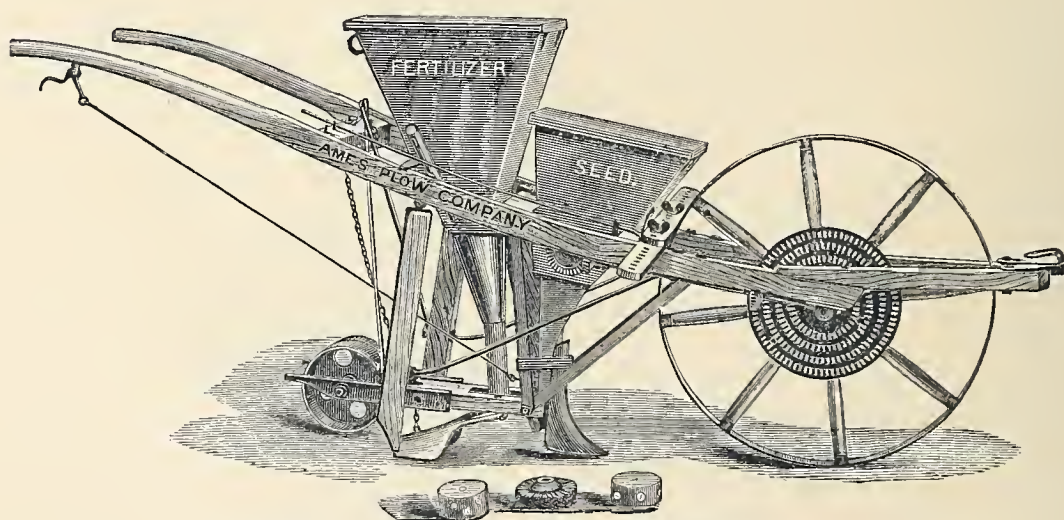

Fig. 338. — Boston Corn and Seed Planter.
**The Boston Planter**, represented by *Fig. 338*, for horse or hand power, is sold